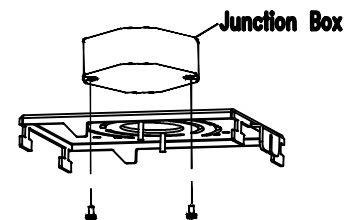

Fig. 3
- a) For Damp Location Usage:** Secure mounting plate to 4" octagonal metal junction box using (2) #8 screws (by others) per Fig. 3.